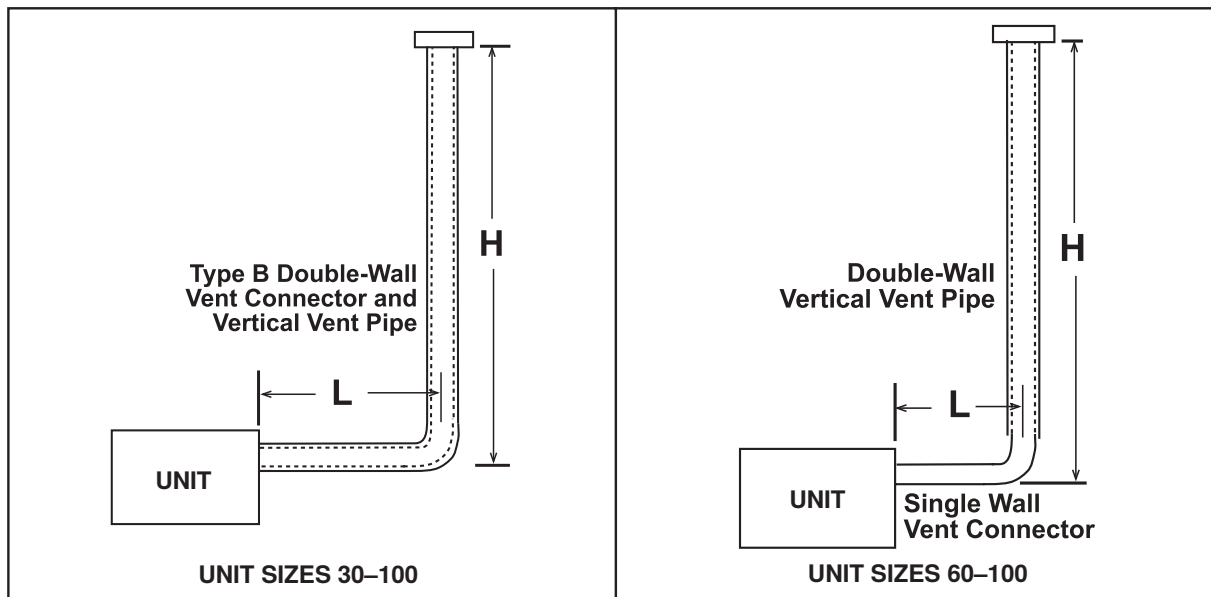

Figure 13. Typical Category I Dedicated Vent (Refer to Table 15)
1. Select vent pipe and vent connector for Category I vent (see Figure 13).
H x L (See Figure 13) Dimension (Feet (Meters))